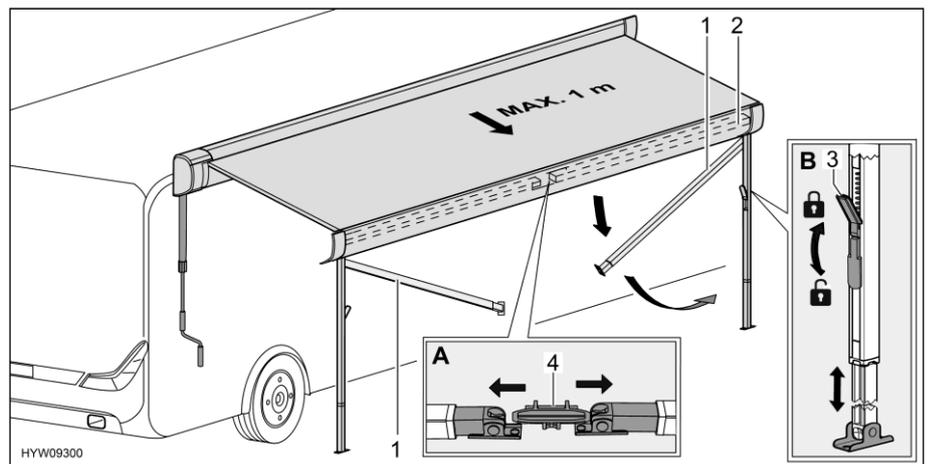

Fig. 44 Preparing support legs
- Release support legs (Fig. 44,1) from holder (Fig. 44,4) in the front bar (Fig. 44,2). In order to do this, apply slight outward pressure on the support legs (Fig. 44,A).
- Release the locks (Fig. 44,3) of the support legs. In order to do this, fold the catch lever downwards.
- Pull lower part of the support legs out to the desired length (Fig. 44,B).
- Close the locks (Fig. 44,3) of the support legs. In order to do this, fold the catch lever upwards.